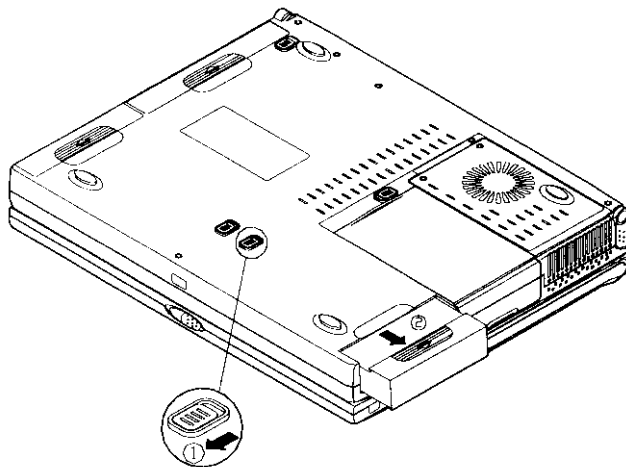

Figure 1-15
2. Locate the Battery Pack latch. (Figure 1-15)